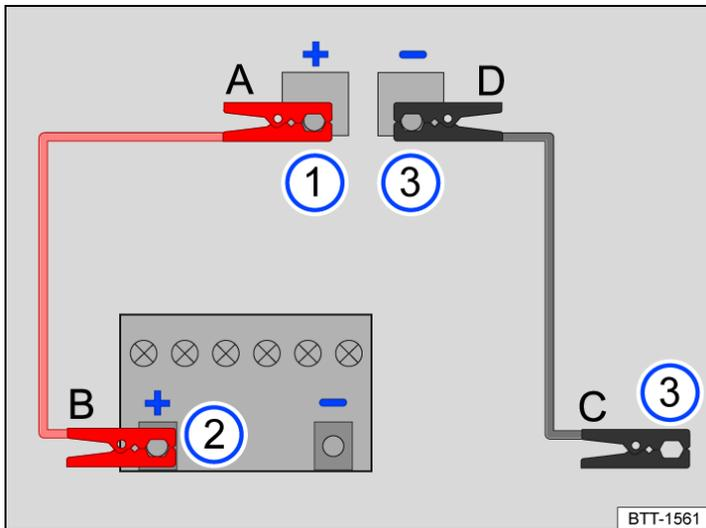

Fig. 2 Diagram showing how to connect jump leads on the vehicle providing the jump start (12-volt battery in luggage compartment).
Key to Fig. 1 and Fig. 2:
The jump leads should be connected only in the order A – B – C – D → Fig. 2.
- Connect one end of the *red* jump cable A to the jump lead positive (+) of the vehicle with the discharged 12-volt vehicle battery → Fig. 2 ① → ⚠.
- Connect the other end of the *red* jumper cable B to the positive pole + of the vehicle giving current → Fig. 2 ②.
- One end of the *black* jumper cable C should preferably be connected to a jumper point (ground connection) on the vehicle with the 12-volt vehicle battery supplying power, otherwise to a solid metal part firmly screwed to the engine block or to the engine block itself → Fig. 2 ③.
- The other end of the *black* jump lead D for the vehicle with the 12-volt discharged vehicle battery, preferably to the jump lead ground connection (-), otherwise to a solid metal part firmly screwed to the engine block or to the engine block itself → Fig. 2 ③ → ⚠.